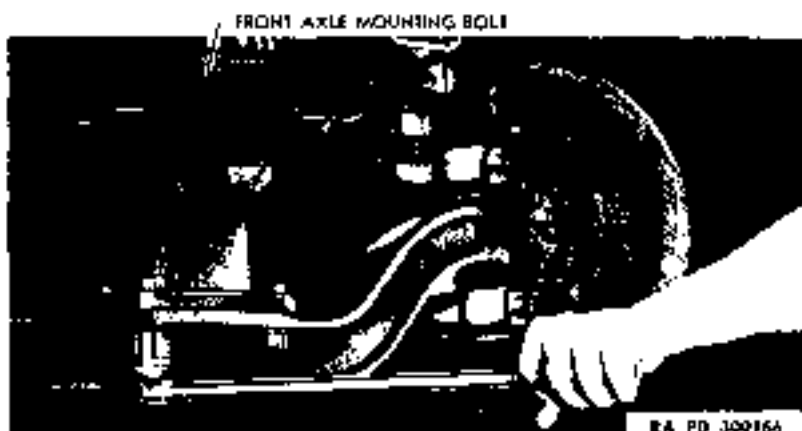

Figure 76—Tightening Front Axle Mounting Bolt
a. **Remove Axle.** Jack up front end of vehicle on both sides, using one jack under each frame side member, or a hoist, if available. Remove both front wheels (par. 139). Remove cotter pin from front end of steering drag link and take out threaded plug. Tap steering drag link out of left-hand steering spindle. Disconnect front wheel flexible brake lines at junction plate on frame. Hold fittings with two wrenches to avoid twisting lines. Remove the four nuts, bolts, and lock washers that hold the axle I-beam to the bottom of the mounting bracket on each side (fig. 76), holding the bolt head with one wrench, while turning the nut with the other. **CAUTION:** Support axle while removing the last bolt and nut on each side. Lower axle carefully to the ground.